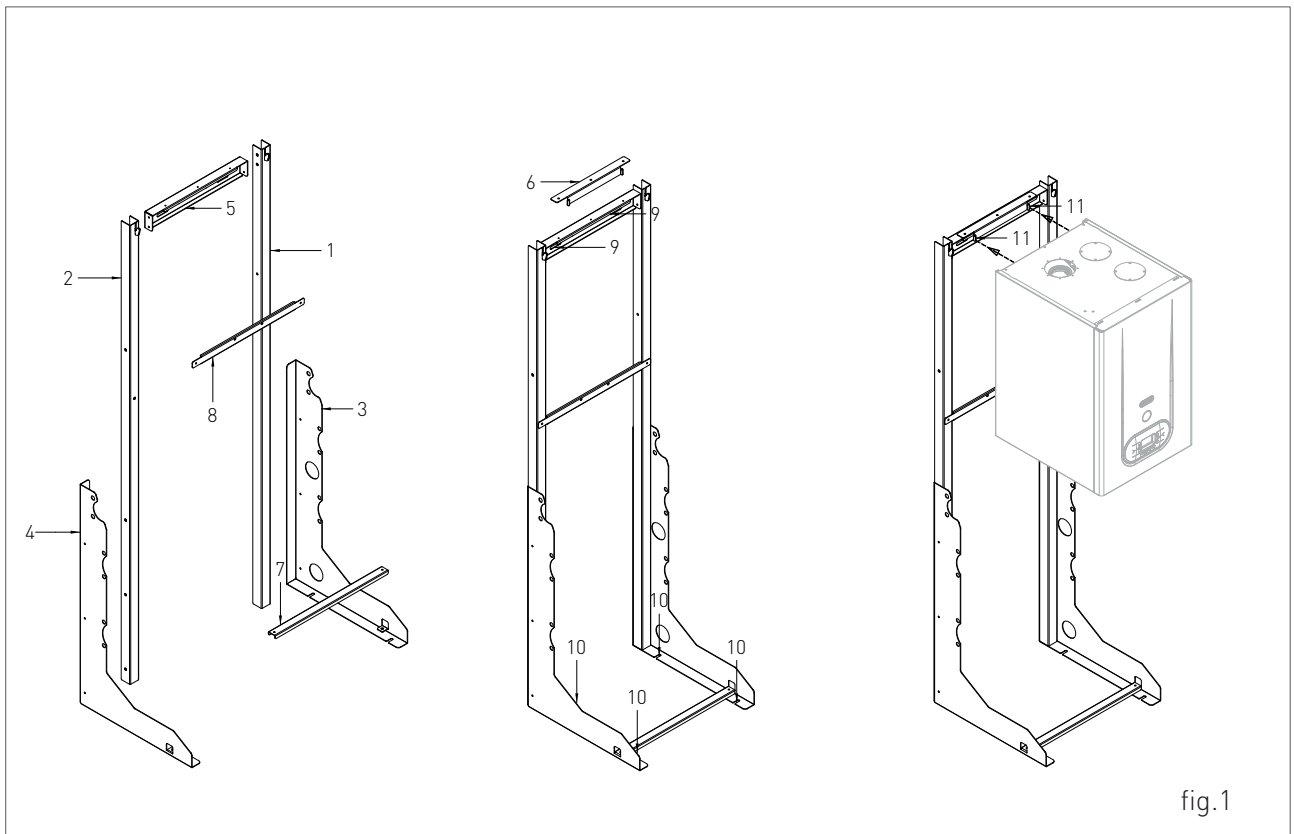

fig.1
2. assemble the side profiles 3 and 4 on the pillars 1 and 2 (fig. 1);